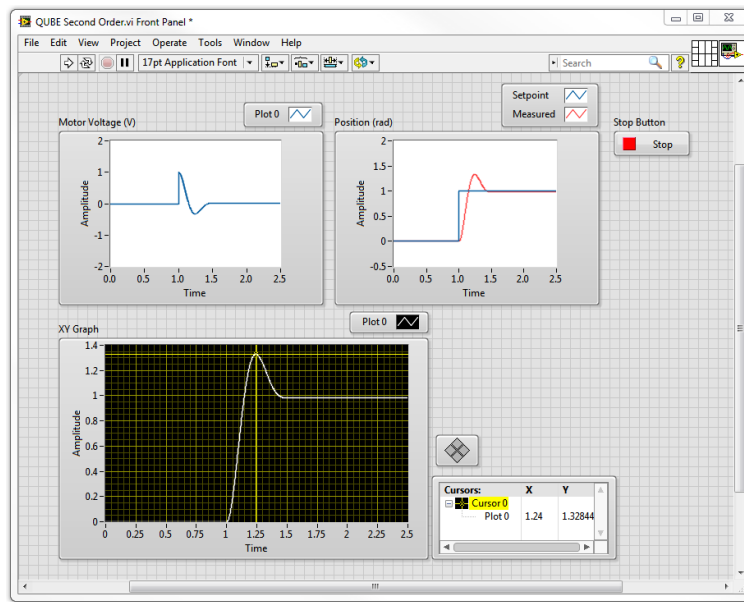

Figure 6.4: Unity feedback QUBE-Servo step response
3. Run the VI. The scopes should look similar to Figure 6.4.